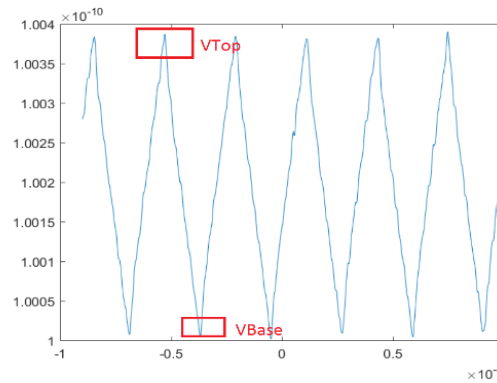

Figure 61  $V_{top}$  and  $V_{base}$  measurements on an SSC triangle profile
- Measure the  $V_{top}$  and  $V_{base}$  for every SSC triangle profile, as shown in Figure 61.